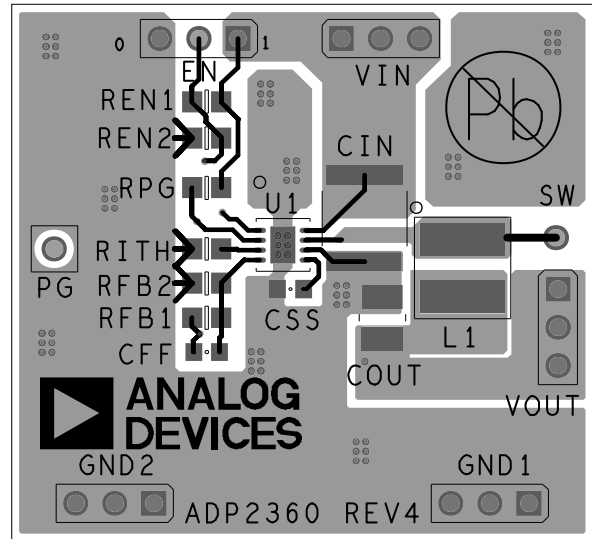

Figure 26. PCB Layout, Top
- Because up to 60 V may be present between the EPAD and device pins, the EPAD must be solder mask defined and reduced slightly in size to prevent the risk of bridging if the device is misaligned. To help ensure alignment during reflow processes, traces must exit the pads perpendicular to the device edge as shown in Figure 26. See the AN-772 Application Note, *A Design and Manufacturing Guide for the Lead Frame Chip Scale Package (LFCSP)*, for further guidance on layout, footprint, and manufacturing.